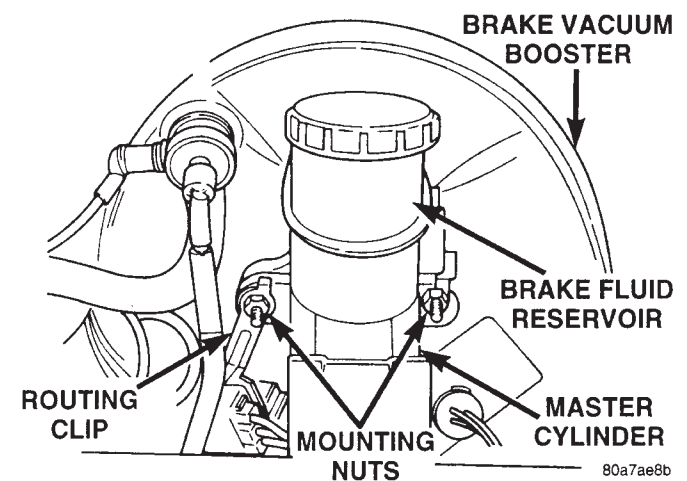
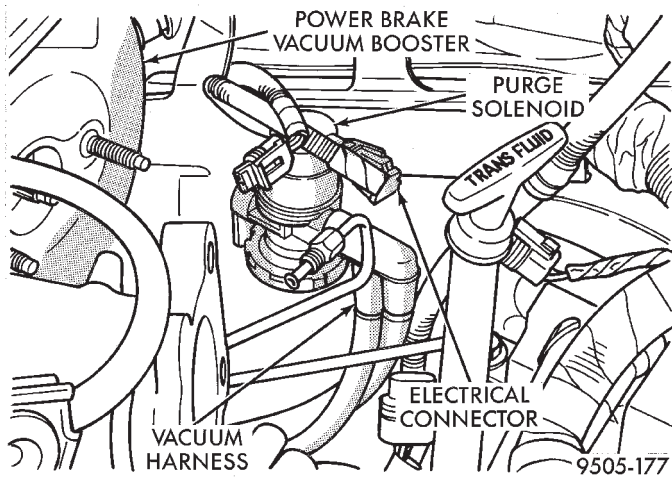
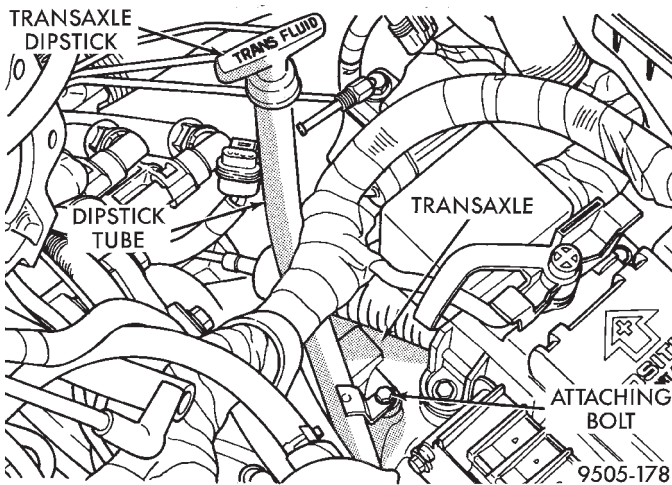
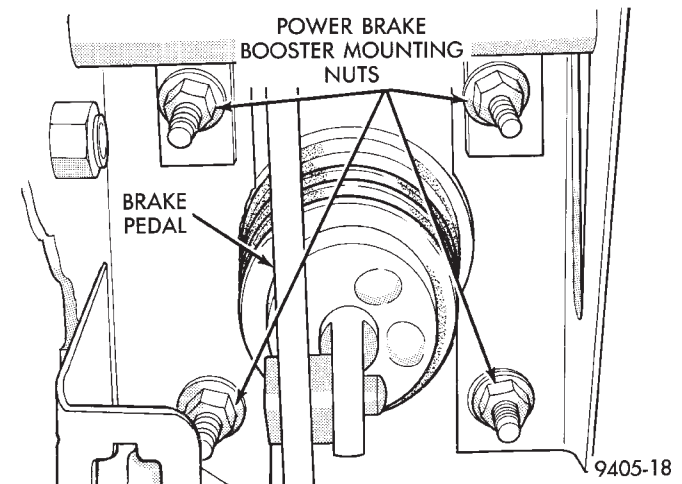

Fig. 110 Master Cylinder Mounting To Vacuum Booster
Fig. 111 Purge Control Solenoid
Fig. 112 Transaxle Dipstick Tube
Fig. 114 Vacuum Booster Mounting
(10) Remove the 2 nuts (Fig. 110) attaching the master cylinder assembly to the power brake vacuum booster.
(11) Remove the routing clip and chassis brake tubes (Fig. 110) (as an assembly) from the (12) mounting stud for the master cylinder.
(13) Remove the master cylinder from the vacuum booster.
(14) Remove the vacuum harness connector and electrical connector from the purge solenoid (Fig. 111). Remove bracket and purge solenoid as an assembly from the vehicle.
(15) Remove dipstick tube attaching bolt (Fig. 112). Then remove the dipstick tube and dipstick (Fig. 112) as an assembly from the transaxle.
(18) Remove the 4 nuts attaching the vacuum booster to the dash panel. Nuts are accessible from under dash panel in area of the steering column and pedal bracket assembly (Fig. 114).
- (1) Position power brake booster onto dash panel.
- (2) Install and torque the 4 power brake vacuum booster mounting nuts (Fig. 114) to 37 N·m (27 ft. lbs.) torque.
- (3) Using lubriplate, or an equivalent, coat the surfaces of the brake pedal pin that contact the power brake vacuum booster input rod.
- (4) Connect power brake vacuum booster input rod to brake pedal pin and install a **NEW** retaining clip. **Use only a new retainer clip DO NOT USE the old clip.**
- (5) Install the dipstick tube in transaxle (Fig. 112). Install dipstick tube attaching bolt and securely tighten (Fig. 112).
- (6) Install the vacuum hoses on the check valve in the power brake vacuum booster.
- (7) Position purge control solenoid (Fig. 111) on left front strut tower and install and securely tighten attaching bolt. Then correctly route and install the vacuum harness connector and electrical connector (Fig. 111) on the purge control solenoid.
- (8) Position master cylinder on vacuum booster, aligning push rod on vacuum booster with the piston of the master cylinder.
(9) Install the routing clip and chassis brake tubes on the inboard mounting stud for the master cylinder.
(10) Install the 2 master cylinder to power brake unit mounting nuts (Fig. 110). Tighten the 2 mounting nuts to a torque of 28 N·m (250 in. lbs.).